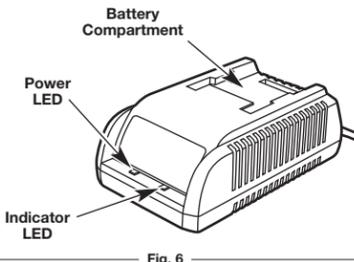

Fig. 6
2. The red Power LED will illuminate (Fig. 6).
NOTE: Make sure the battery is fully inserted into the charge by making sure the red Indicator LED charge light is on (Fig. 6).
4. Once the battery has reached a full charge level the Indicator LED will turn from red to green (Fig. 6).